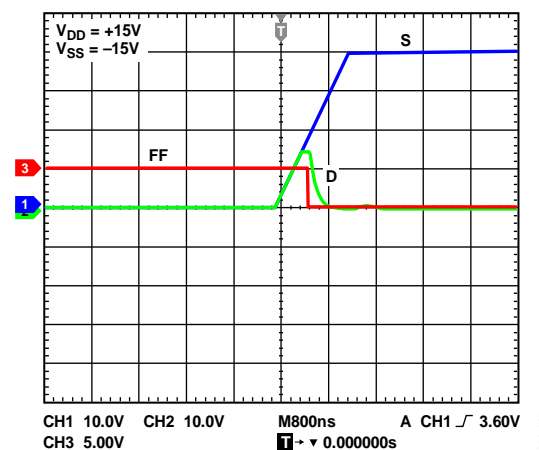

Figure 26. Drain Output Response to Positive Overvoltage
When an overvoltage condition is detected on either the S or SFB pin, both switches automatically open regardless of the digital logic state (IN). The S to D and SFB to DFB pins become high impedance and ensure that no current flows through the switches. In Figure 26, the voltage on the D pin follows the voltage on the S pin until the main channel switch turns off completely and the drain voltage discharges through the load. The maximum voltage on the drain is limited by the internal ESD diodes, and the rate at which the output voltage discharges is dependent on the load at the D pin.